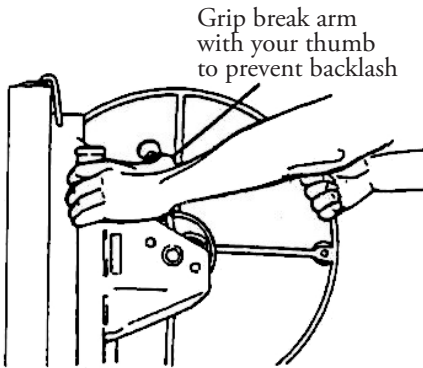

Fig. 4
- Raise the brake arm all the way up. Grasp the winch post, and grip the brake arm firmly with your thumb. (Fig 4)